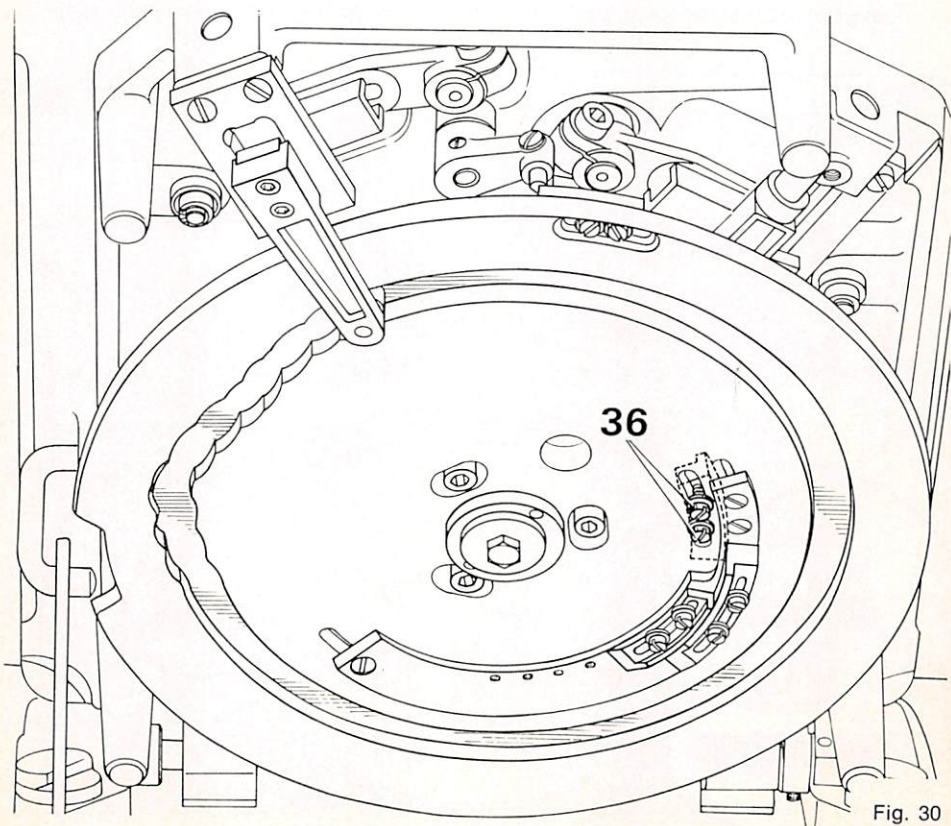

Fig. 30
**30. Timing the tension release mechanism (Fig. 30)**